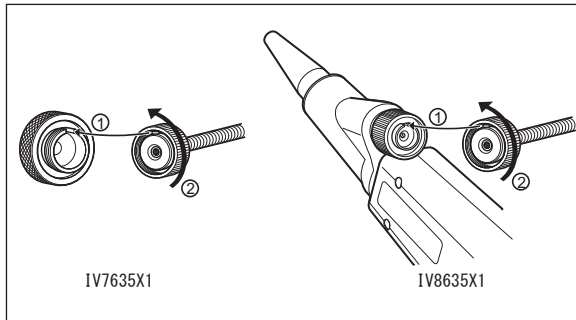

Figure 3.6
2. Align the projection on the chuck adapter with the notch on the channel port, and tighten the CH ring to clamp the chuck adapter in position (see Figure 3.6).